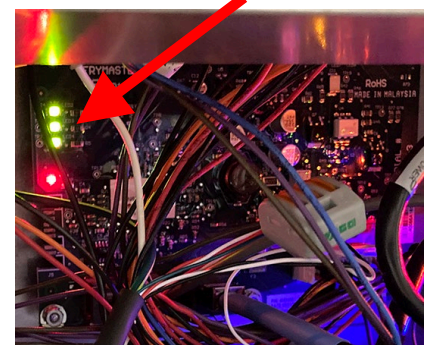

Figure 54
54. Plug in the fryer and ensure the FIB board lights up (see Figure 54).
56. Once fryer has powered up, wait one (1) additional minute with the controller OFF and press the HOME button.